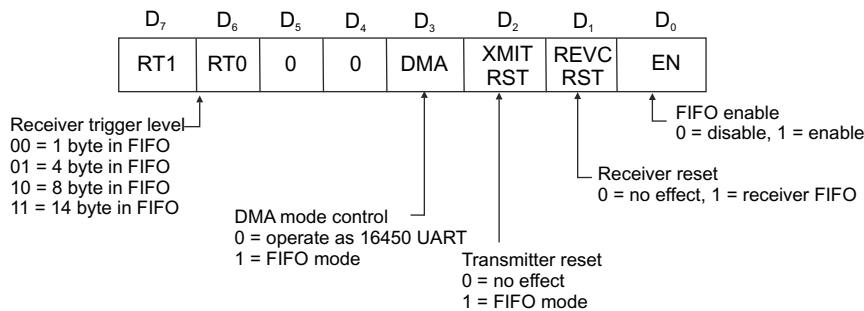

Fig. 9.99 FIFO control register
- ✓ **FCR** The FCR (FIFO Control Register) is a write-only type register. The FIFO control register is used to enable the transmitter and receiver FIFOs. It clears the transmitter and receiver FIFOs and generates control for the 16550 interrupts. The transmitter and receiver are independently controlled. Set the RCVR FIFO trigger level and select the type of DMA signal. Figure 9.99 shows the FIFO control register.